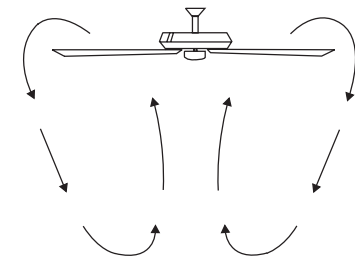

Fig. 30
**Cool Weather Operation:** Reverse (clockwise). An upward airflow moves warm air off the ceiling areas (Fig. 30). This allows you to set your heating unit on a cooler setting without affecting your general comfort.